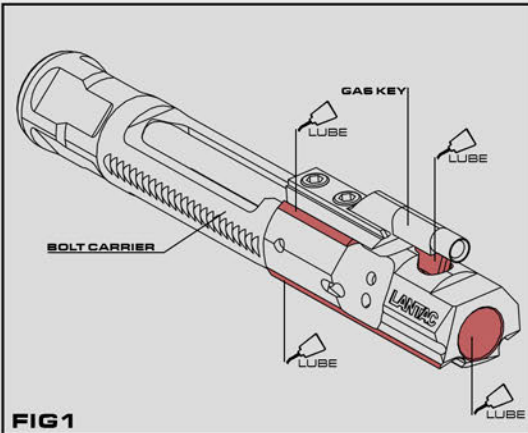

FIG 1
1. CAREFULLY CLEAN OUT THE GAS KEY WITH A Q-TIP, MAKE SURE THERE IS NO OBSTRUCTION AND BLOW OUT WITH AIR IF POSSIBLE. CLEAN THE GAS PORTS WITH A PIPE CLEANER, MAKE SURE THEY ARE FREE OF FOULING AND CLEAR. CLEAN THE CARRIER BORE AND WIPE OUT WITH A SOFT CLOTH, FIG1.
LUBRICATE THE E-BCG™ BOLT CARRIER, BOTH THE BORE AND EXTERIOR SURFACE SHOULD BE LUBRICATED, USE ONLY FROGLUBE™, OTHER LUBRICATION PRODUCTS HAVE BEEN KNOWN TO DISCOLOR THE NIB COATING, PAY ATTENTION TO THE AREAS HIGHLIGHTED IN FIG 1.
1. REASSEMBLE THE ACTION SPRING AND BUFFER INTO THE BUFFER TUBE. DEPRESS THE BUFFER RETAINER AND PUSH THE SPRING AND BUFFER INTO THE BUFFER TUBE, THEN RELEASE THE DETENT, FIG1.